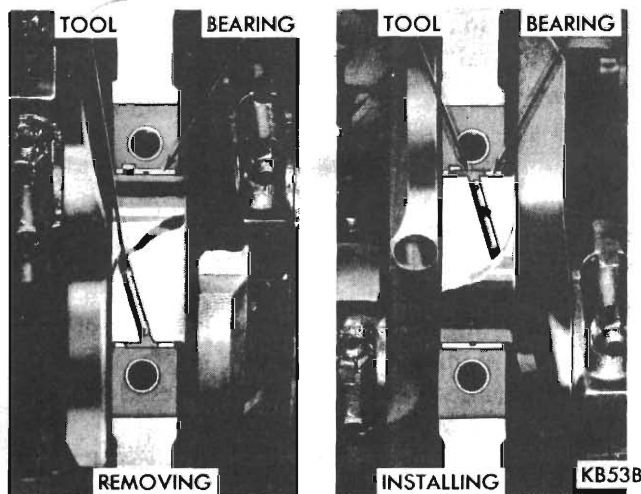

Fig. 45 - Replacing upper main bearings using special tool (or suitable equivalent)
(1) Remove the oil pan and check the bearing cap numbers.
(2) Remove the bearing caps one at a time. Remove upper bearing by inserting a suitable tool. (see Fig. 45) into the oil hole on crankshaft.
(3) Slowly rotate crankshaft clockwise forcing out upper bearing.